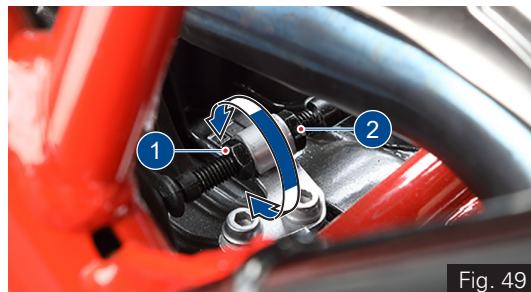

Fig. 49
- Lock the lock nut (3) again.
- Re-fix the dust cover (2) and cable clamp (1).
- Loosen the lock nut (5) at the bottom end of the clutch cable (ref. Fig. 49).
- Turn the adjuster in (6) 'in' or 'out' until the specified play is obtained and then tighten the lock nut and check the adjustment once again (ref. Fig. 49).